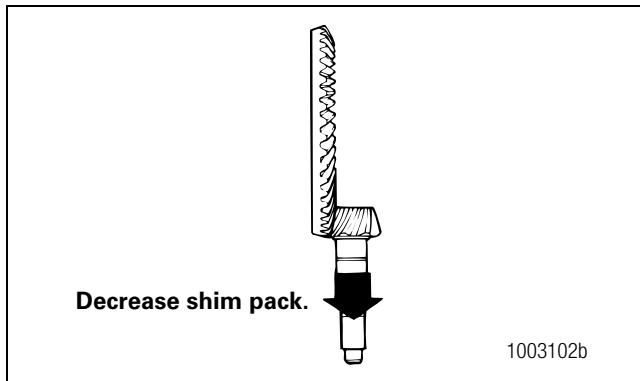

Figure 5.72
- **To correct a high contact pattern:** Decrease the thickness of the shim pack under the bearing cage. When decreasing the thickness of the shim pack, the drive pinion will move toward the ring gear. Figure 5.72.